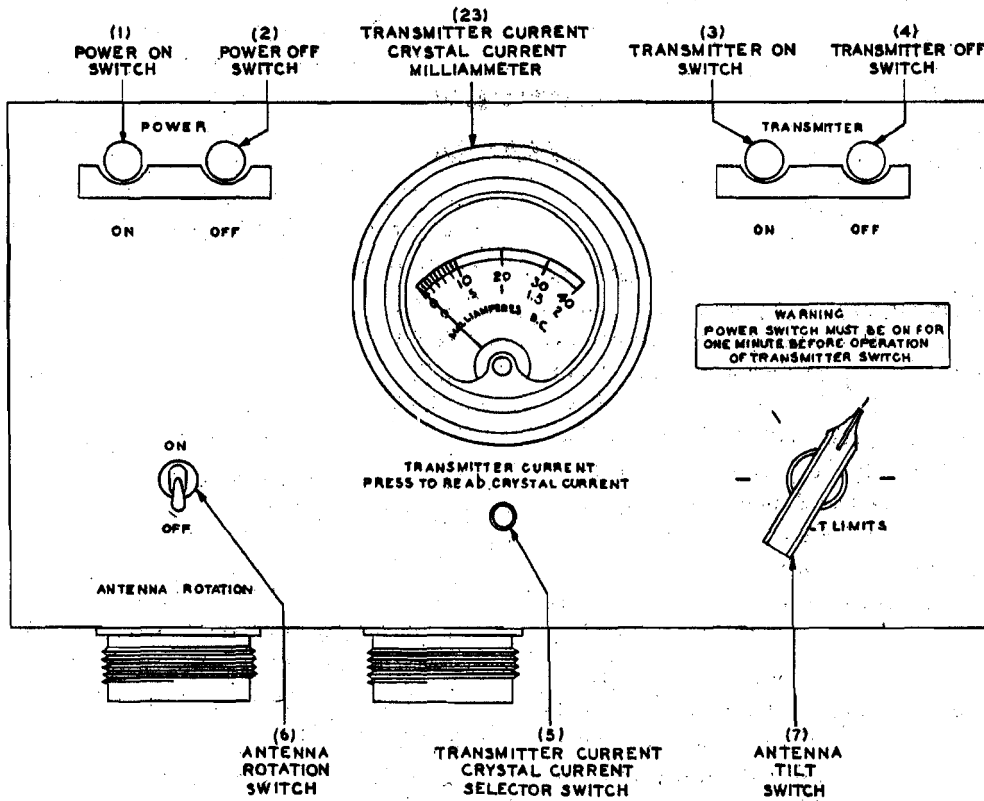
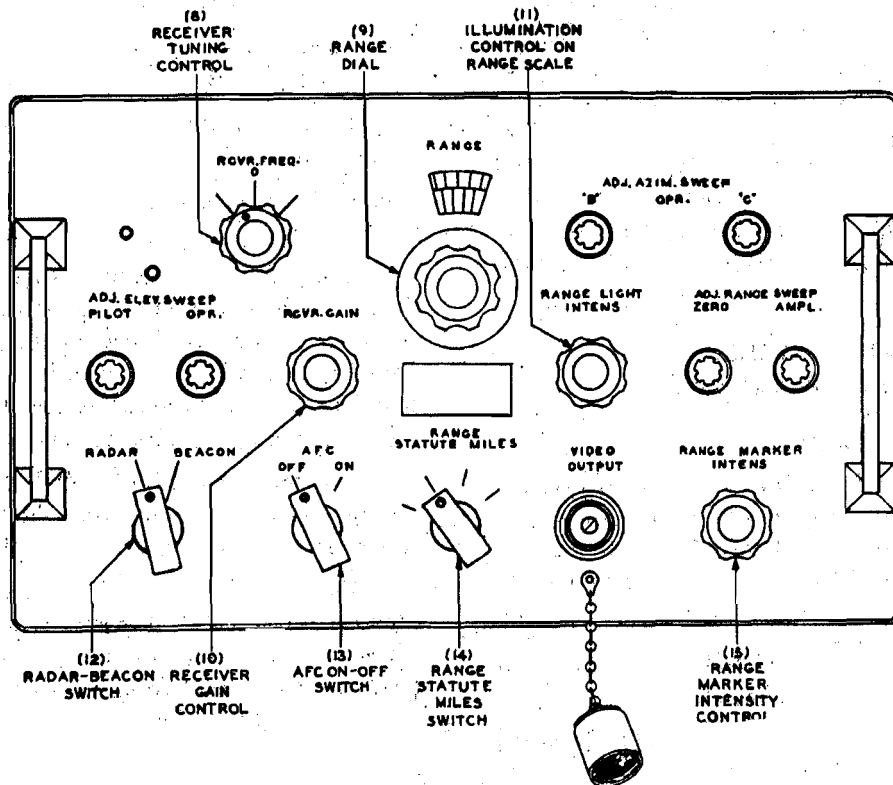
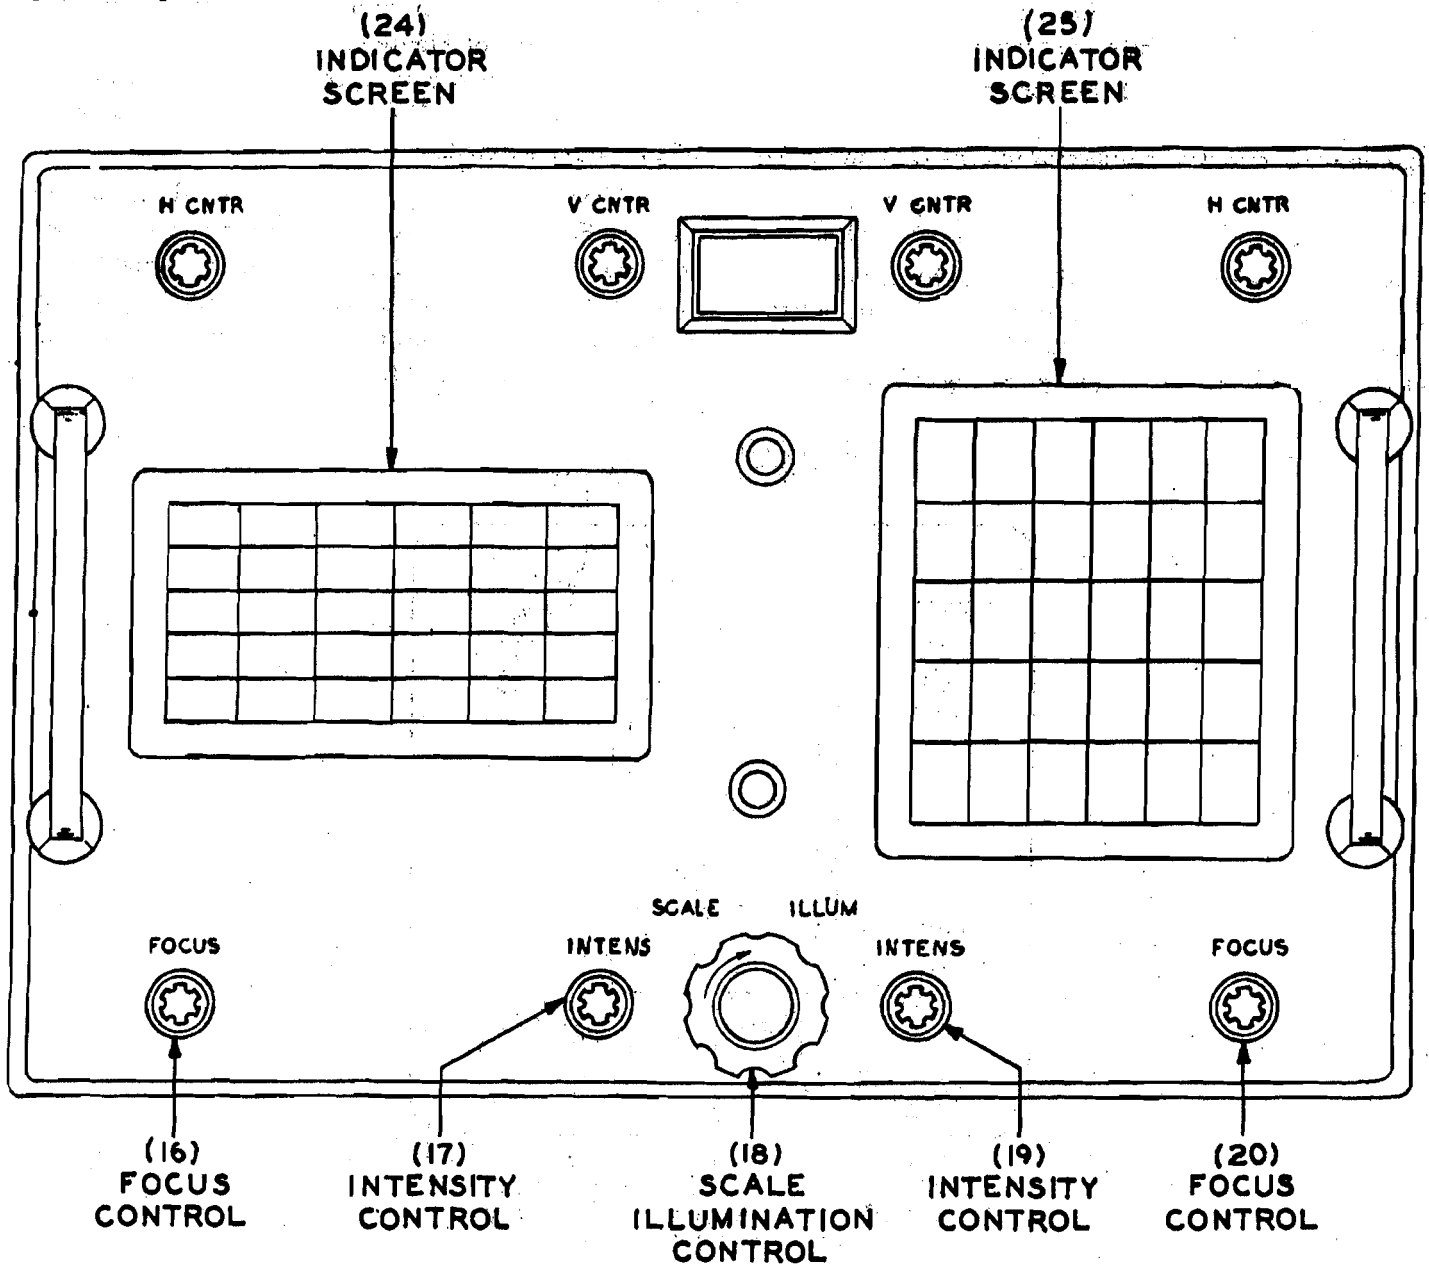
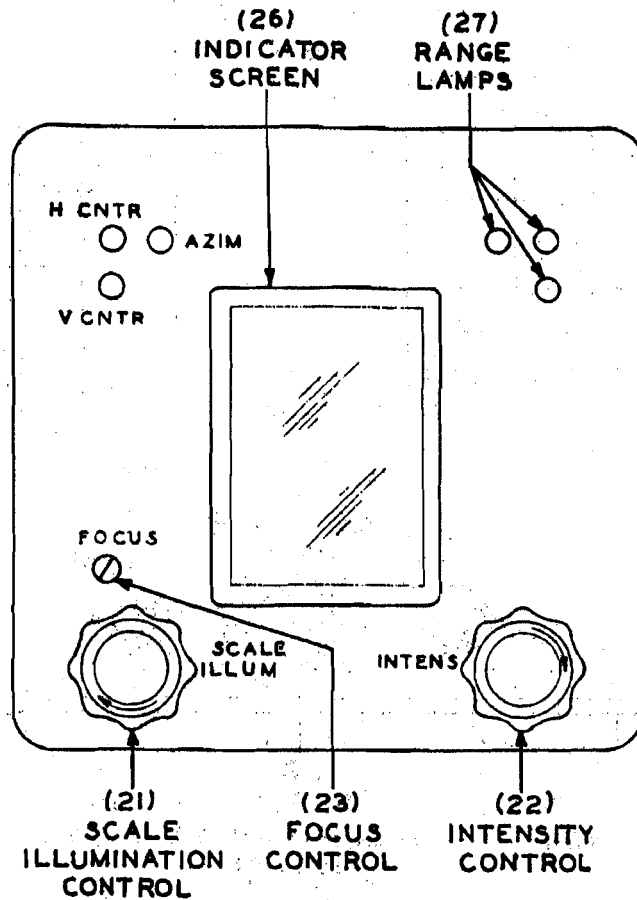

Figure 1—Panel of Control Box BC-1150-A
Figure 2—Panel of Synchronizer BC-1148-A
Figure 3—Indicator BC-1151-A (Operator's)
Figure 4—Indicator BC-1152-A (Pilot's)
The operator normally will be concerned only with controls on the following units: Control Box BC-1150-A, Figure 1; Synchronizer BC-1148-A, Figure 2; Indicator BC-1151-A (Operator's), Figure 3; and Indicator BC-1152-A (Pilot's), Figure 4.
a. Check that the TRANSMITTER switch (4) is off by pushing the OFF button. See Figure 1.
b. Check that the ANTENNA ROTATION switch (6) is in the OFF position.
c. Check that the POWER switch (2) is off by pushing the OFF button.
d. Turn the TILT LIMITS dial (7) to the second position from the left.
e. Check that the RCVR GAIN control (10) is in the extreme counterclockwise position. See Figure 2.
f. Turn the RANGE STATUTE MILES switch (14) to the extreme right-hand position.
g. Turn the AFC switch (13) to the OFF position.
h. Turn the RADAR-BEACON switch (12) to the RADAR position.
i. Turn the RANGE LIGHT INTENS control (11) to its extreme counterclockwise position.
j. Turn the RANGE MARKER INTENS control (15) to its extreme counterclockwise position.
k. Turn the SCALE ILLUM control (18) to its extreme counterclockwise position. See Figure 3.
l. Turn the INTENS control (17) to its extreme counterclockwise position.
m. Turn the INTENS control (19) to its extreme counterclockwise position.
n. Turn the SCALE ILLUM control (21) to its extreme counterclockwise position. See Figure 4.
o. Turn the INTENS control (22) to its extreme counterclockwise position.
p. Push the ON button (1) of the POWER switch. See Figure 1.
q. Check that the maximum crystal current as read on the meter (23) of Figure 1 is between 0.6 milliamperes and 1.5 milliamperes by rotating the RCVR FREQ control (8) of Figure 2. Be sure the entire control range of three complete turns has been covered by this adjustment. Leave the control in the position for maximum current.
r. Flip the ANTENNA ROTATION switch (6) of Figure 1 in the ON position. The antenna should turn at a relatively low rate of speed.
s. *Momentarily* turn the INTENS control (17) of Figure 3 as nearly full clockwise as necessary to determine whether a small spot of light travels across the screen (24) in the direction from left to right. It may be necessary to adjust the V CENTR control of Figure 3 to bring this spot of light to the visible portion of the screen. Return the control *immediately* to its full counterclockwise position. If no spot appears, the high-voltage rectifier which supplies the indicators and the "keep alive"
t. Turn the RANGE STATUTE MILES switch (14) of Figure 2 to the third position from the extreme left-hand position. The antenna should turn at a relatively high rate of speed.
u. After the inverter has been on for two minutes, push the ON button (3) of the TRANSMITTER switch to turn on the transmitter. See Figure 1. The meter (23) should indicate approximately 17 milliamperes. Should the meter indication be in excess of 20 milliamperes, turn the transmitter OFF by pushing the OFF button (4) of the TRANSMITTER switch and consult the radio maintenance crew.
v. Turn the INTENS control (19) and the FOCUS control (20) of Figure 3 slowly clockwise to obtain a satisfactory sweep indication on the adjoining indicator screen.
w. Turn the RCVR GAIN control (10) of Figure 2
slowly clockwise and slightly adjust the RCVR FREQ control (8) to obtain a sharp pattern on the indicator screen (25) of Figure 3. This assumes the aircraft is in a favorable position for echoes. The RCVR GAIN control should not be too far clockwise otherwise receiver overloading will occur. The RCVR FREQ adjustment should be fairly critical. Minor readjustments indicated in *v* may be necessary for optimum results. At this point it may be necessary to slightly adjust the V CNTR control of the indicator screen (25) so the transmitted pulse coincides with the 0 point of the scale.
x. Turn the INTENS control (22) and the FOCUS control (23) of Figure 4 slowly clockwise to obtain a satisfactory pattern on the pilot's indicator screen (26). In addition, check that the proper lamp (27) is lit.
y. Turn the SCALE ILLUM controls, (18) of Figure 3 and (21) of Figure 4, to suitably illuminate the scale markings associated with indicator screens (25) and (26) respectively.
z. Turn the AFC switch (13) of Figure 2 to ON.
aa. Turn the RANGE STATUTE MILES switch (14) of Figure 2 to the second position from the extreme left. The pattern on indicator screen (25) of Figure 3 will expand due to the smaller range setting while that on
indicator screen (26) of Figure 4 will disappear due to a change in the functioning of the oscilloscope. It probably will be necessary to readjust the V CNTR control on the indicator screen after this operation, so that the transmitted pulse will coincide with the 0 point of the scale. In addition, check that the proper lamp (27) is lit.